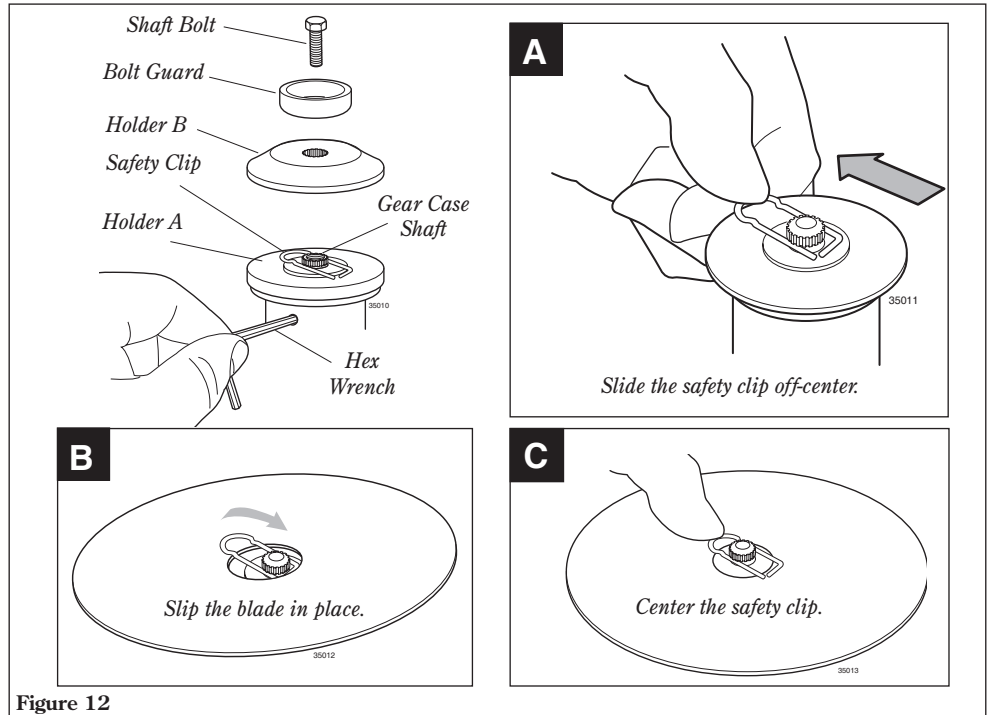

Figure 12
1. With the gear case output shaft facing up, rotate the gearshaft and Holder A until the hole in Holder A aligns with the matching hole in the gear case flange, and then lock the holder to the gear case by inserting the long end of the hex wrench through both holes. See Figure 12.
2. Remove the shaft bolt, bolt guard and Holder B. See Figure 12.